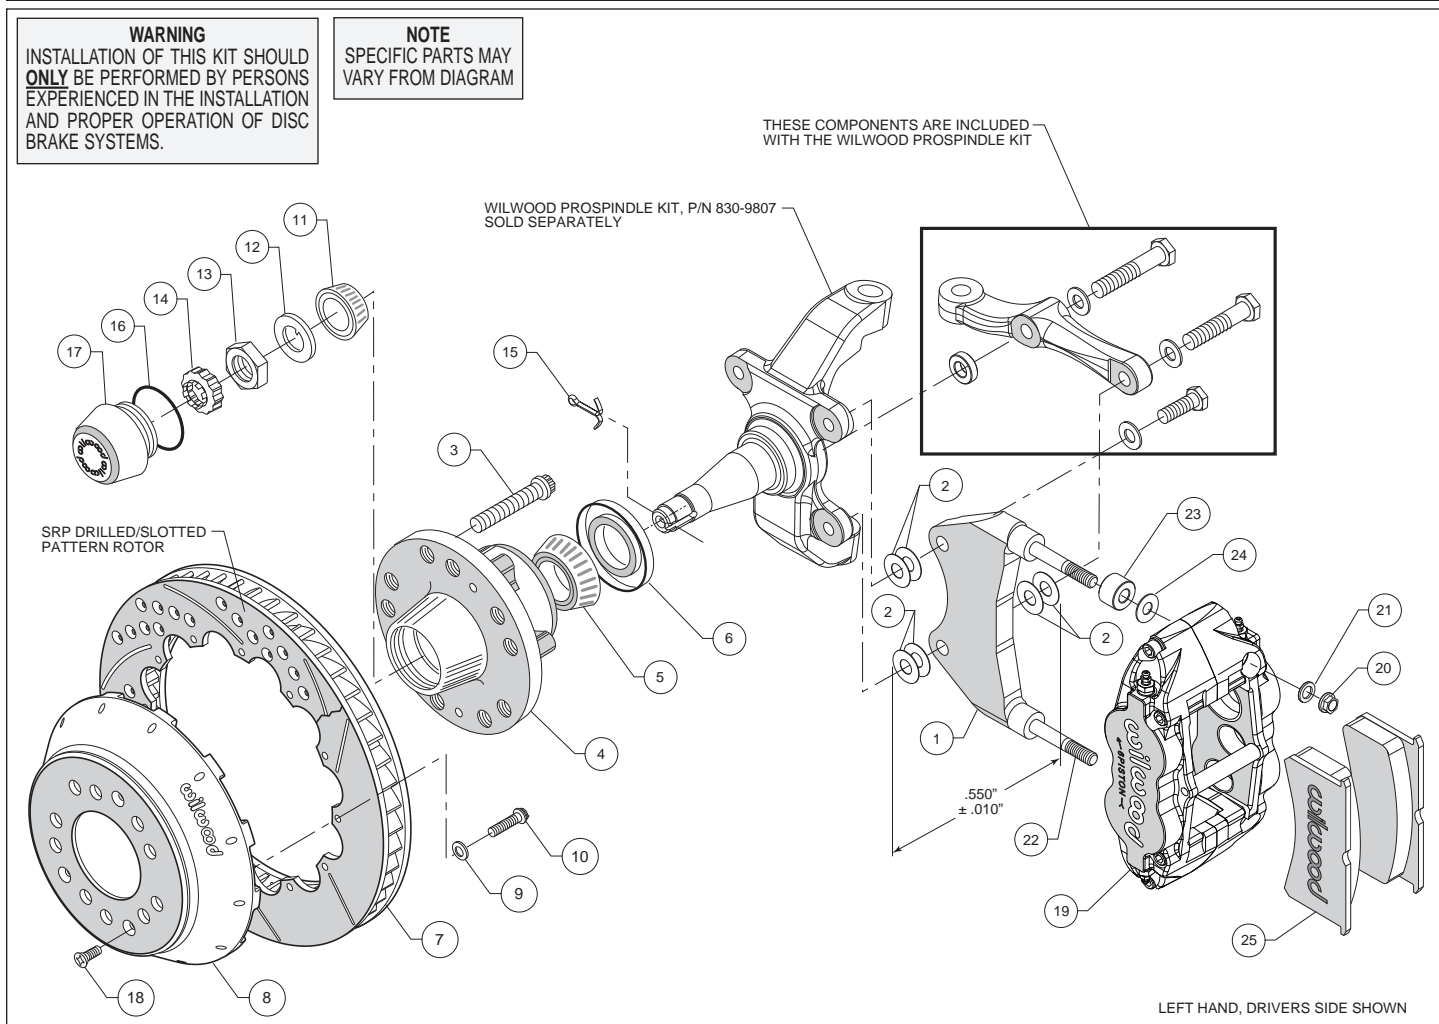

Figure 1. Typical Installation Configuration
- Install the bracket on the inboard side of the spindle by sliding the 1.25" long bolt from the ProSpindle kit through a flat washer, also from the ProSpindle kit, through the top hole of the caliper mounting bracket (1) and into the upper rear spindle mounting ear hole, do not tighten at this time. Use two thin shims (2) between the bracket and spindle during initial trial fitting.
- Slide the 2.00" long bolt from the ProSpindle kit through a flat washer, through the rear (thinner end) hole on the steering arm, through two shim washers (2), through bottom hole of mounting bracket (1), through another two shim washers (2), and finally into the lower rear spindle mounting hole. The bracket (1) is positioned between the steering arm and the spindle for the bottom bolt installation. The bracket and shim washers, for the lower rear mounting must be a thickness of $.550 \pm .010$ ". Again, do not tighten.
- Install wheel studs (3) into the hub (4). Torque to 77 ft-lb. **NOTE:** *There are two lug patterns of five holes each in the hub (5 x 4.50 and 5 x 4.75).* Make sure of the correct hole pattern for the wheel application before installing the studs into the hub.
- With the larger I.D. side of the rotor (7) facing away from the hat (8), bolt the rotor (7) to the hat (8) through the backside of the rotor using washers (9) and bolts (10) provided in the configuration pictured in figure 1. Using an alternating sequence, apply red *Loctite*® 271 to the threads and torque bolts to 155 in-lb. For an added measure of security, the bolts may be safety wired using standard 0.032 inch diameter stainless steel safety wire as shown in Figure 3. Please refer to Wilwood's data sheet DS-386 (available at www.wilwood.com/Pdf/DataSheets/ds386.pdf) for complete safety wire installation instructions.
- Pack the large inner bearing cone (5) with high temperature disc brake bearing grease (available from your local auto parts store) and install into the backside of the hub (4).
- Install the grease seal (6) by pressing into the backside of the hub (4).
- Pack the small outer bearing cone (11) with high temperature disc brake bearing grease and install into front of hub (4). Slide the hub assembly (3, 4, 5, and 6) with outer bearing cone (11) onto the spindle. Secure using spindle washer (12), adjusting nut (13) and nut retainer (14). secure to spindle using cotter pin (15). Adjust bearing using a 12" wrench to tighten the adjusting nut while turning the rotor. When the rotor binds slightly, all the bearing parts are seated properly. Back of the nut 1/6 to 1/4 of a turn or enough to allow 0.001 to 0.007 end play. Lock the nut with a new cotter pin. **WARNING:** *Failure to back off the adjusting nut may cause the bearing to run hot and be damaged, which could cause the wheel to lock or come off during operation, creating a risk of serious bodily harm.*
- Install the o-ring (16) and the dust cap (17) onto the hub (4). Friction created by the o-ring (16) on the dust cap (17) keeps it from unscrewing on its own.
- NOTE:** *This kit contains distinct right and left hand calipers that must be mounted in a specific direction, as described below.* Lubricate the caliper mounting studs (22) with lightweight oil. Initially place two .035" thick shims (24) and one spacer (23) on each stud as shown in Figure 1. Mount the caliper (19) onto the bracket (1) using lock nuts (20) and washers (21), Figure 1. Ensure that the caliper is mounted so that the largest pistons are at the rotor exit end of the caliper, in relation to the direction of rotor rotation. Temporarily tighten the lock nuts and view the rotor through the top opening of the caliper. The rotor should be centered in the caliper. If not, adjust by adding or subtracting shims (2) between the bracket and the spindle, or between the spindle and the steering arm, whichever is applicable to gain the proper alignment. Always use the same amount of shims on both the two mounting bolts. Once the caliper alignment is correct, remove the bracket mounting bolts one at a time, apply red *Loctite*® 271 to the threads, and torque to specifications outlined in the ProSpindle kit.